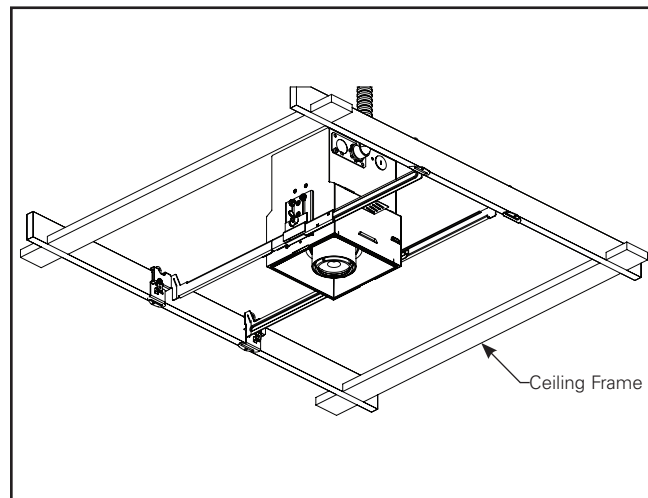

Figure 1.4.
4. Once the connections are made, attach unit with the feet of hangerbars on the bottom side of the framing. (Figure 1.4)